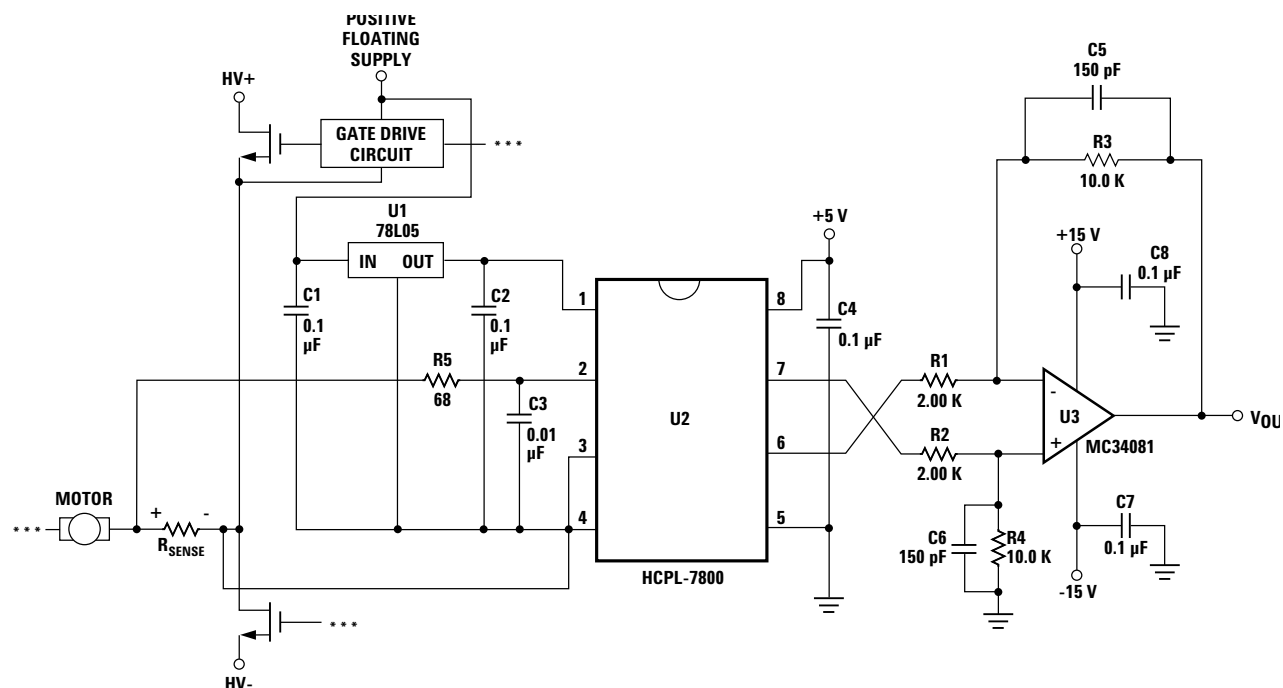

Figure 18: Recommended Application Circuit.
As shown in Figure 18, 0.1  $\mu\text{F}$  bypass capacitors (C1, C2) should be located as close as possible to the pins of the HCPL-7800(A). The bypass capacitors are required because of the high-speed digital nature of the signals inside the HCPL-7800(A). A 0.01  $\mu\text{F}$  bypass capacitor (C2) is also recommended at the input due to the switched-capacitor nature of the input circuit. The input bypass capacitor also forms part of the anti-aliasing filter, which is recommended to prevent high-frequency noise from aliasing down to lower frequencies and interfering with the input signal. The input filter also performs an important reliability function—it reduces transient spikes from ESD events flowing through the current sensing resistor.
The recommended method for connecting the HCPL-7800(A) to the current sensing resistor is shown in Figure 18.  $V_{IN+}$  (pin 2 of the HCPL-7800(A)) is connected to the positive terminal of the sense resistor, while  $V_{IN-}$  (pin 3) is shorted to GND1 (pin 4), with the power-supply return path functioning as the sense line to the negative terminal of the current sense resistor. This allows a single pair of wires or PC board traces to connect the HCPL-7800(A) circuit to the sense resistor. By referencing the input circuit to the negative side of the sense resistor, any load current induced noise transients on the resistor are seen as a common-mode signal and will not interfere with the current-sense signal. This is important because the large load currents flowing through the motor drive, along with the parasitic inductances inherent in the wiring of the circuit, can generate both noise spikes and offsets that are relatively large compared to the small voltages that are being measured across the current sensing resistor.